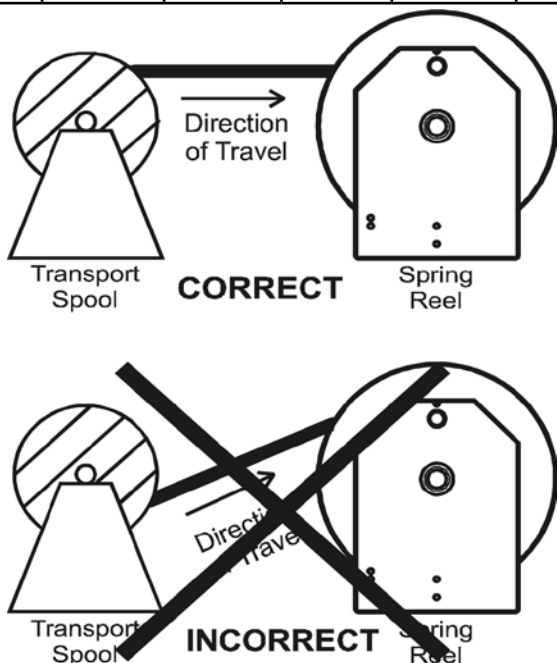

Figure 2
2.5.1 Either of two methods for installing cable on the reel may be used. The first method is to simply lay the cable out straight along the path of travel and wrap onto the reel. The second method requires using a support for the cable being wrapped (see Figure 2, page 10). In either method, it is important that the cable not twist or loop.